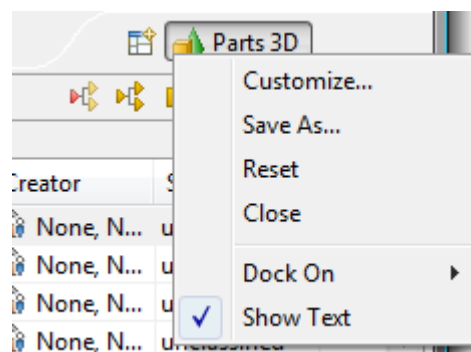

Figure 1. Context sensitive menu
- Right click on the active perspective button in the perspective bar. Select the **Save As..** menu item from the appeared context sensitive menu (see Figure 1).